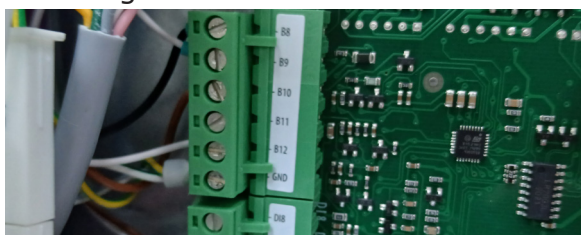

Fig. 76 : Unplug B8-B12/GND Connector
20. Unplug 6 pin connector on the left, B8 - B12/GND, from PCBA. See Fig. 76.